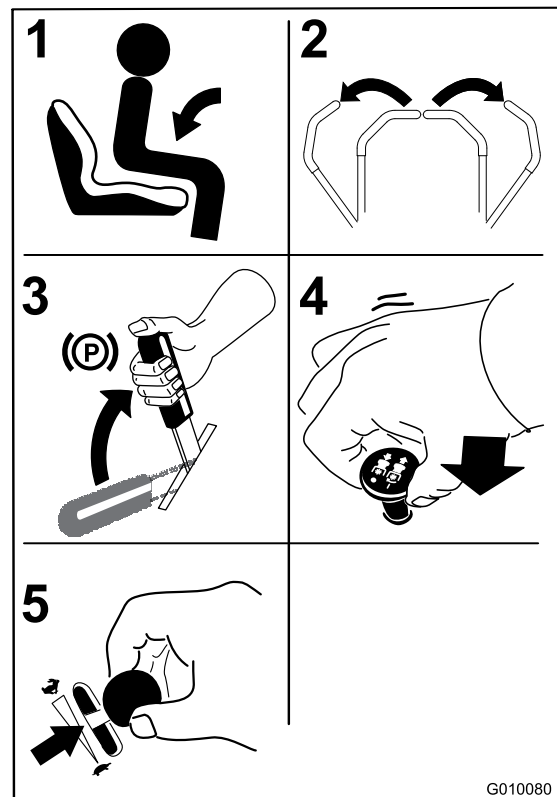

Figure 16
1. Sit down on the seat (Figure 16).
2. Move the motion controls outward to the neutral lock position (Figure 16).
3. Set the parking brake (Figure 16); refer to Setting the Parking Brake.
4. Move the blade control switch (PTO) to the Off position (Figure 16).